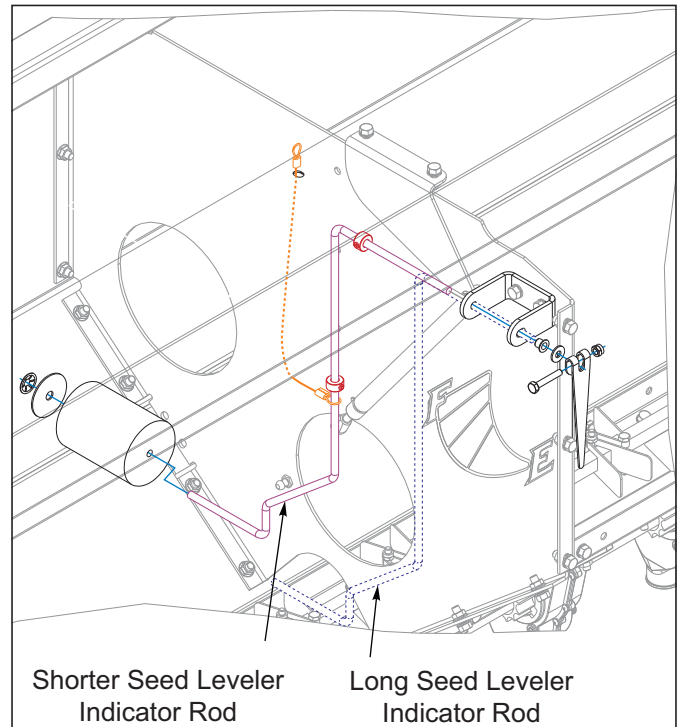

Figure 3-11: Seed Box Seed Level Rod Installation
18. install the new shorter seed level indicator rod See Figure 3-11. Otherwise the agitators will interfere with the indicator when the seed level is low.